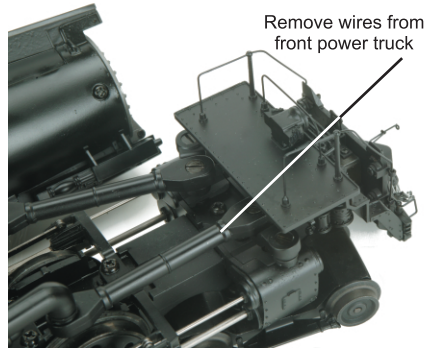

Figure 8a
- 4) Remove wires from front power truck (Fig. 8a).